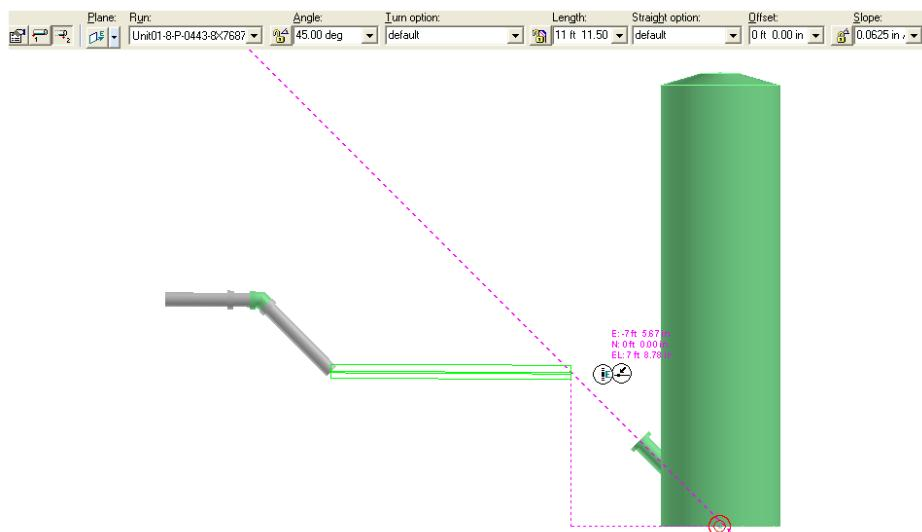

Figure 17: Projection Line Indicating the Centerline of the Piping Nozzle
28. The system will display a projection line that indicates the centerline of the piping nozzle. Locate the projection line displayed by the system until SmartSketch displays the point on curve indicator and E glyphs. These glyphs indicate that you found the intersection point between the sloped pipe and the centerline of the pipe nozzle, as shown in Figure 17.